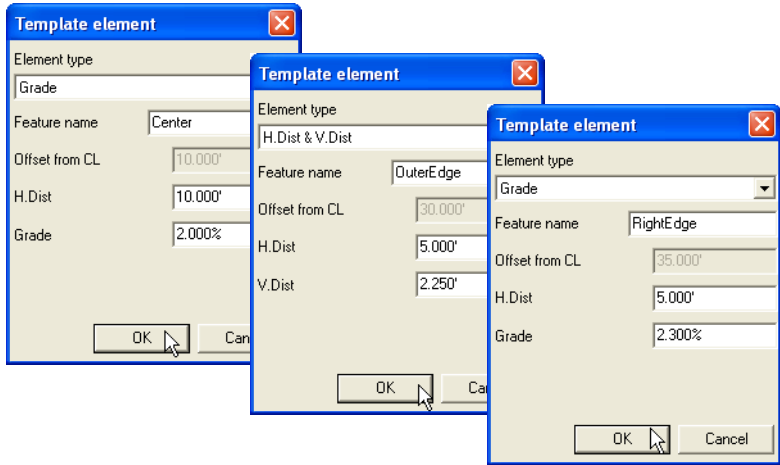

Figure 6-10. Add Templates Elements
- Click **Add** to enter further elements, selecting from the Grade, H.Dist & V.Dist, Curb, and Side slope as needed (Figure 6-10). Click **OK** to save the element.